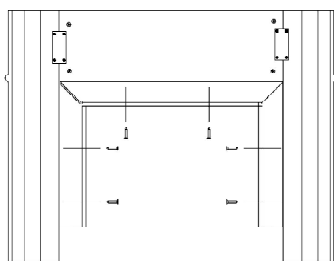

Figure 7
8. Attached the assembled trim assembly to the inside fringe formed by the breast plate and the right and left sides. (See Figure 7)